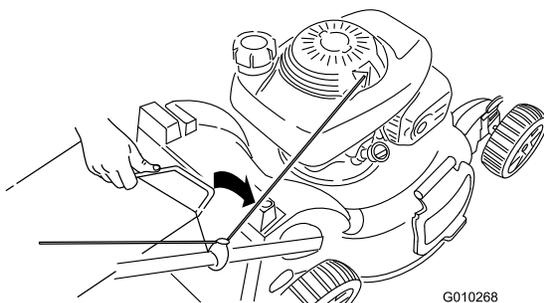

**Figure 29**
2. Lift the grass bag handle out from the grooves at the top of the mower and remove the bag from the mower (Figure 29).